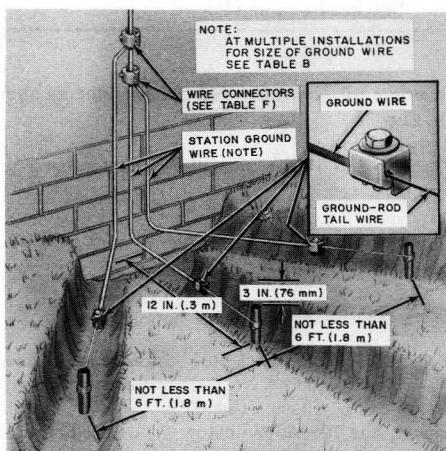

Fig. 78—♦Three Ground Rods♦
protectors together. Select wire connectors from Table F. No more than three ground rods need be placed. Space ground rods at least 6 feet apart (Fig. 78).
9.08 Multiple station protectors, such as the 116- or 117-type, should **not** be connected to a single telephone ground rod unless the rod is bonded to the power system ground rod. If a power system ground rod is not available, a multiple station protector may be connected to an array of three telephone ground rods, spaced at least 6 feet apart, and bonded together with No. 6 ground wire (Fig. 78).